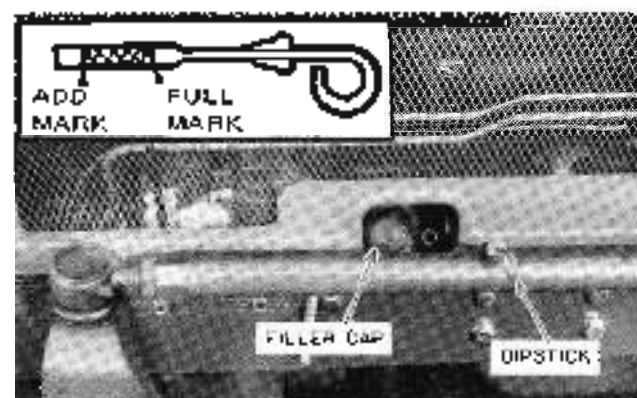

Figure 35 — Engine Oil Level Dipstick and Filler Cap
1. With the tractor standing level, and after the engine has been stopped for a period of time, check the oil level with the dipstick. Figure 35.